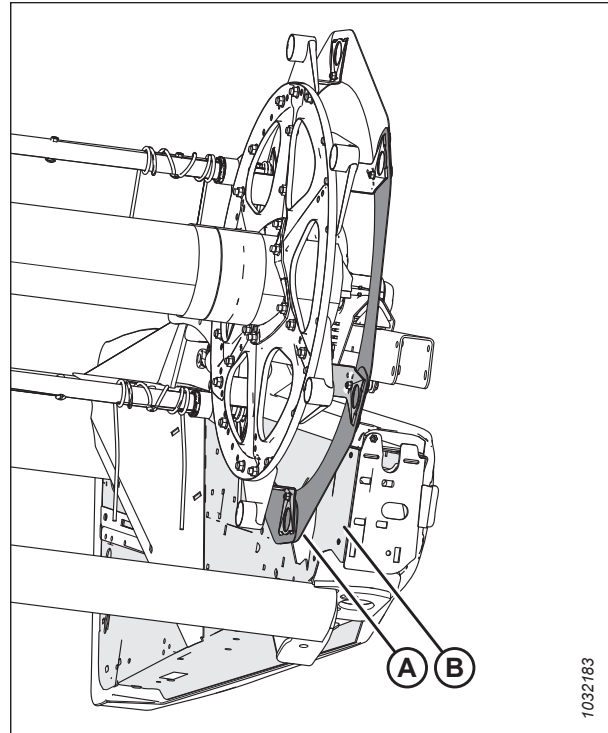

Figure 5.275: Reel Endshield and Header Endsheets
3. Measure the clearance at locations (A) between the reel and each of the endsheets. The clearances should be within 20 mm (25/32 in.) of each other if the reel is properly centered. To see locations (A) in greater detail, refer to Figure 5.275, page 578.